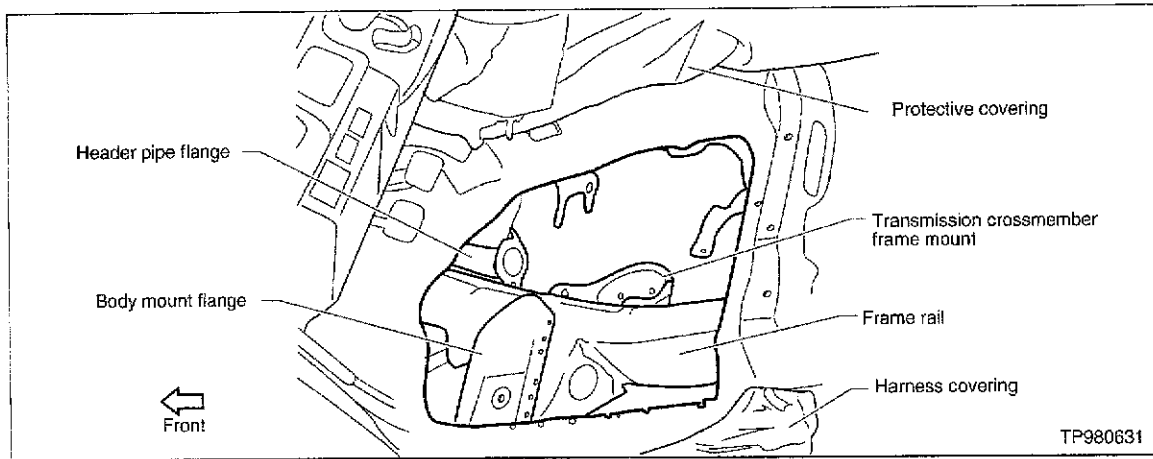

Figure 2
9. Drill out any spot welds attached to the area to be replaced. Then cut out the corroded area (see Figure 2), using the appropriate body tools.